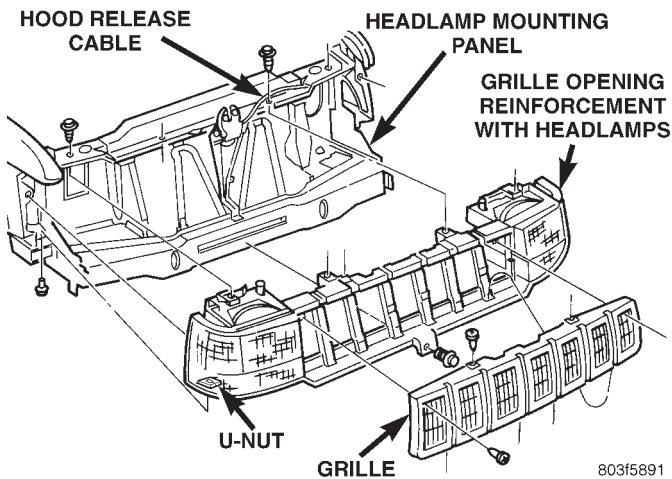
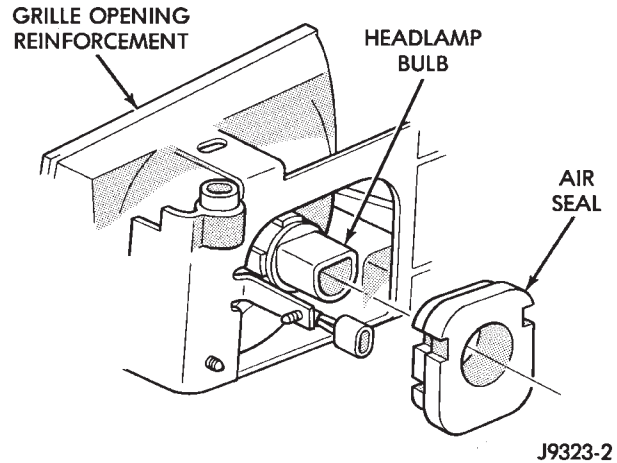

Fig. 1 Grille and Grille Opening Reinforcement(GOR)
Fig. 2 GOR Air Seals
- (1) Open hood.
- (2) Remove screws attaching grille to grille opening reinforcement (Fig. 1).
- (3) Separate grille from vehicle.
- (2) Remove grille.
- (3) Remove front fascia. Refer to Group 13, Frame and Bumpers for Removal/Installation procedures.
- (4) If equipped, remove license plate bracket from bumper fascia/crossmember.
- (5) Remove side marker and turn signal lamps. Refer to Group 8L, for Removal/Installation procedures.
- (6) Remove headlamps.
- (7) Remove bolts that attach grille opening reinforcement (GOR) to the upper and lower crossmember (Fig. 1).
- (8) Remove grille opening reinforcement.
- (9) If necessary, remove air seals located at headlamp wiring inlets (Fig. 2).